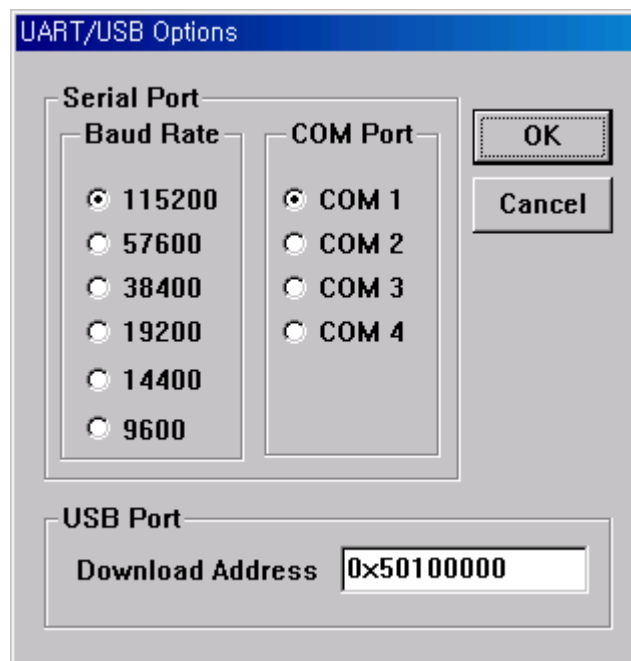

Figure 5-2 UART/USB Options
5. On the **Configuration** menu, click **Options** to set the UART/USB options. The following window appears on your screen. Select Baud Rate and COM Port as shown in figure 5-2, enter the download address as (S3C6410 Single:0x50100000, S3C6410 XD POP: 0x60100000) and then click OK button.